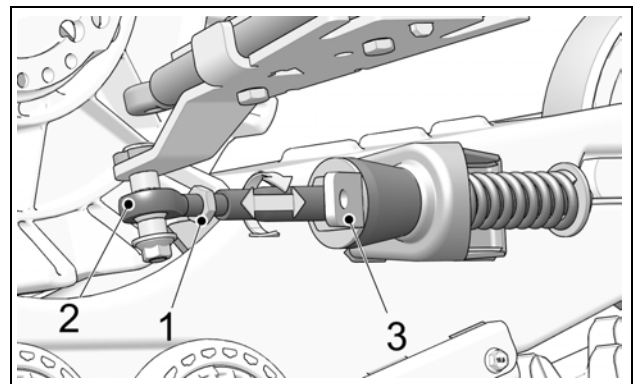

Figure 5
- Loosen jam nut (1). Adjust length of rod end (2) by rotating the steering limiter support plate on (3) the stabilizing arm. Use a 30 mm [1 3/16 in] wrench to rotate support plate to obtain a perfectly centered bubble in the level. Refer to Figure 5.
**NOTE:** The stabilizing arms on front Track Systems incorporate a steering limiter support plate (3) which is bent. This plate should be positioned inwards, towards the vehicle.